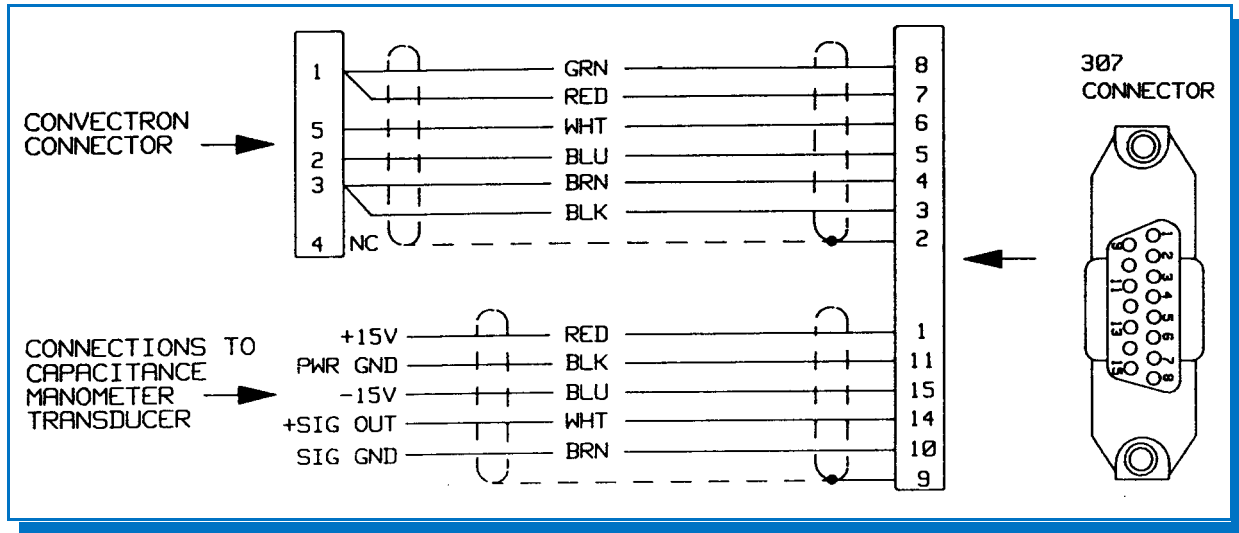

Figure 8-3 Capacitance Manometer Module, Cable.
The cable supplied by Granville-Phillips for this module connects to both a CONVECTRON gauge and a capacitance manometer. Since electrical connectors to capacitance manometers are not standardized, Granville-Phillips provides cables terminated with tinned wire leads. Figure 8-3 on page 8-3 shows the color-coded functions of the wires. Please consult the manual for your capacitance manometer transducer for information on electrical connection, and installation of the transducer in your vacuum system.
1. Be sure the transducer was zeroed properly on initial installation, see your transducer documentation. Connect the cable from the 307 VGC to the capacitance manometer transducer per Figure 8-3.